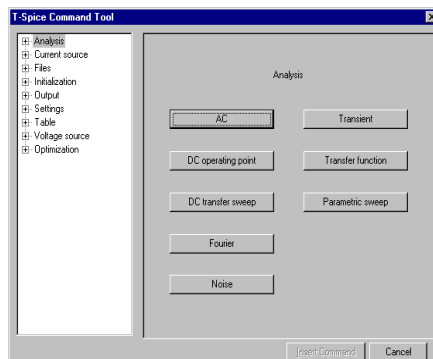

Figure 7: **T-Spice Command Tool** dialog
- ☑ Click the work area to invoke the **T-Spice Command Tool** dialog (Figure 7).